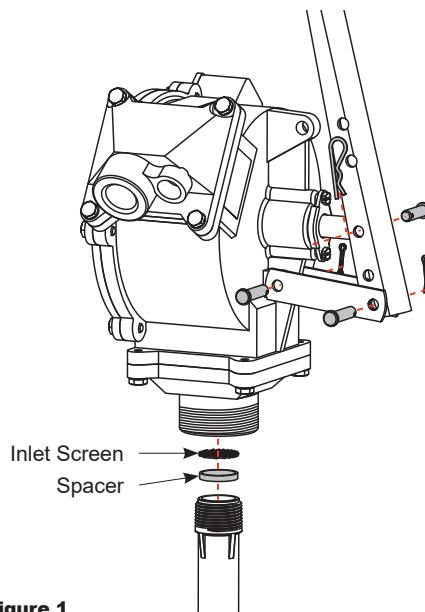

Figure 1
3. Remove spacer from inlet cover (see Figure 1).
4. Remove inlet screen (see Figure 1).